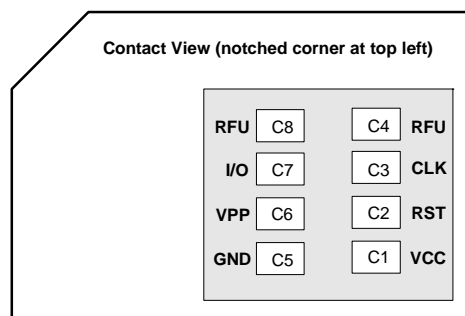

Figure 3-4: SIM Card Contacts (contact view)
1. See Figure 3-4 on page 32 for SIM card contacts.